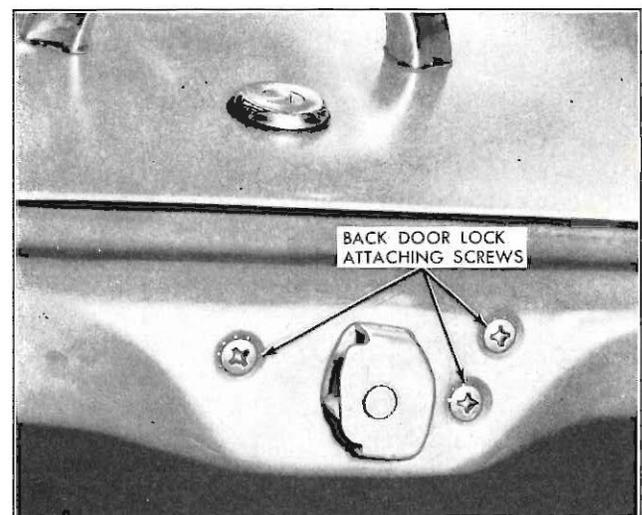

Fig. 6—Back Door Lock
2. Remove three back door lock attaching screws from face of lock pillar (see Fig. 6) and remove lock through hole in door inner panel.